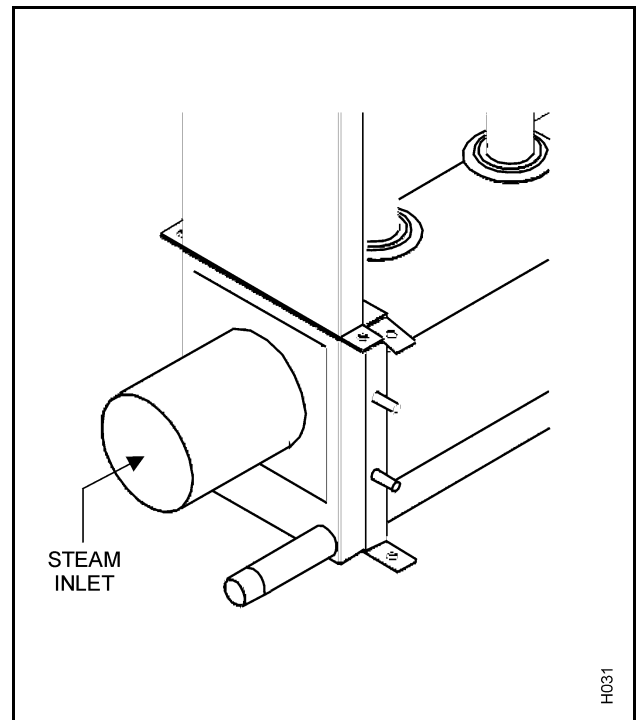

Figure 25. Steam Inlet
(1) Atmospheric Steam (NH, GS, SE)
- (a) The steam inlet, Figure 25, is determined by the selected humidifier. Refer to submittals, Chapter 10-30 to determine the size of steam outlet required.